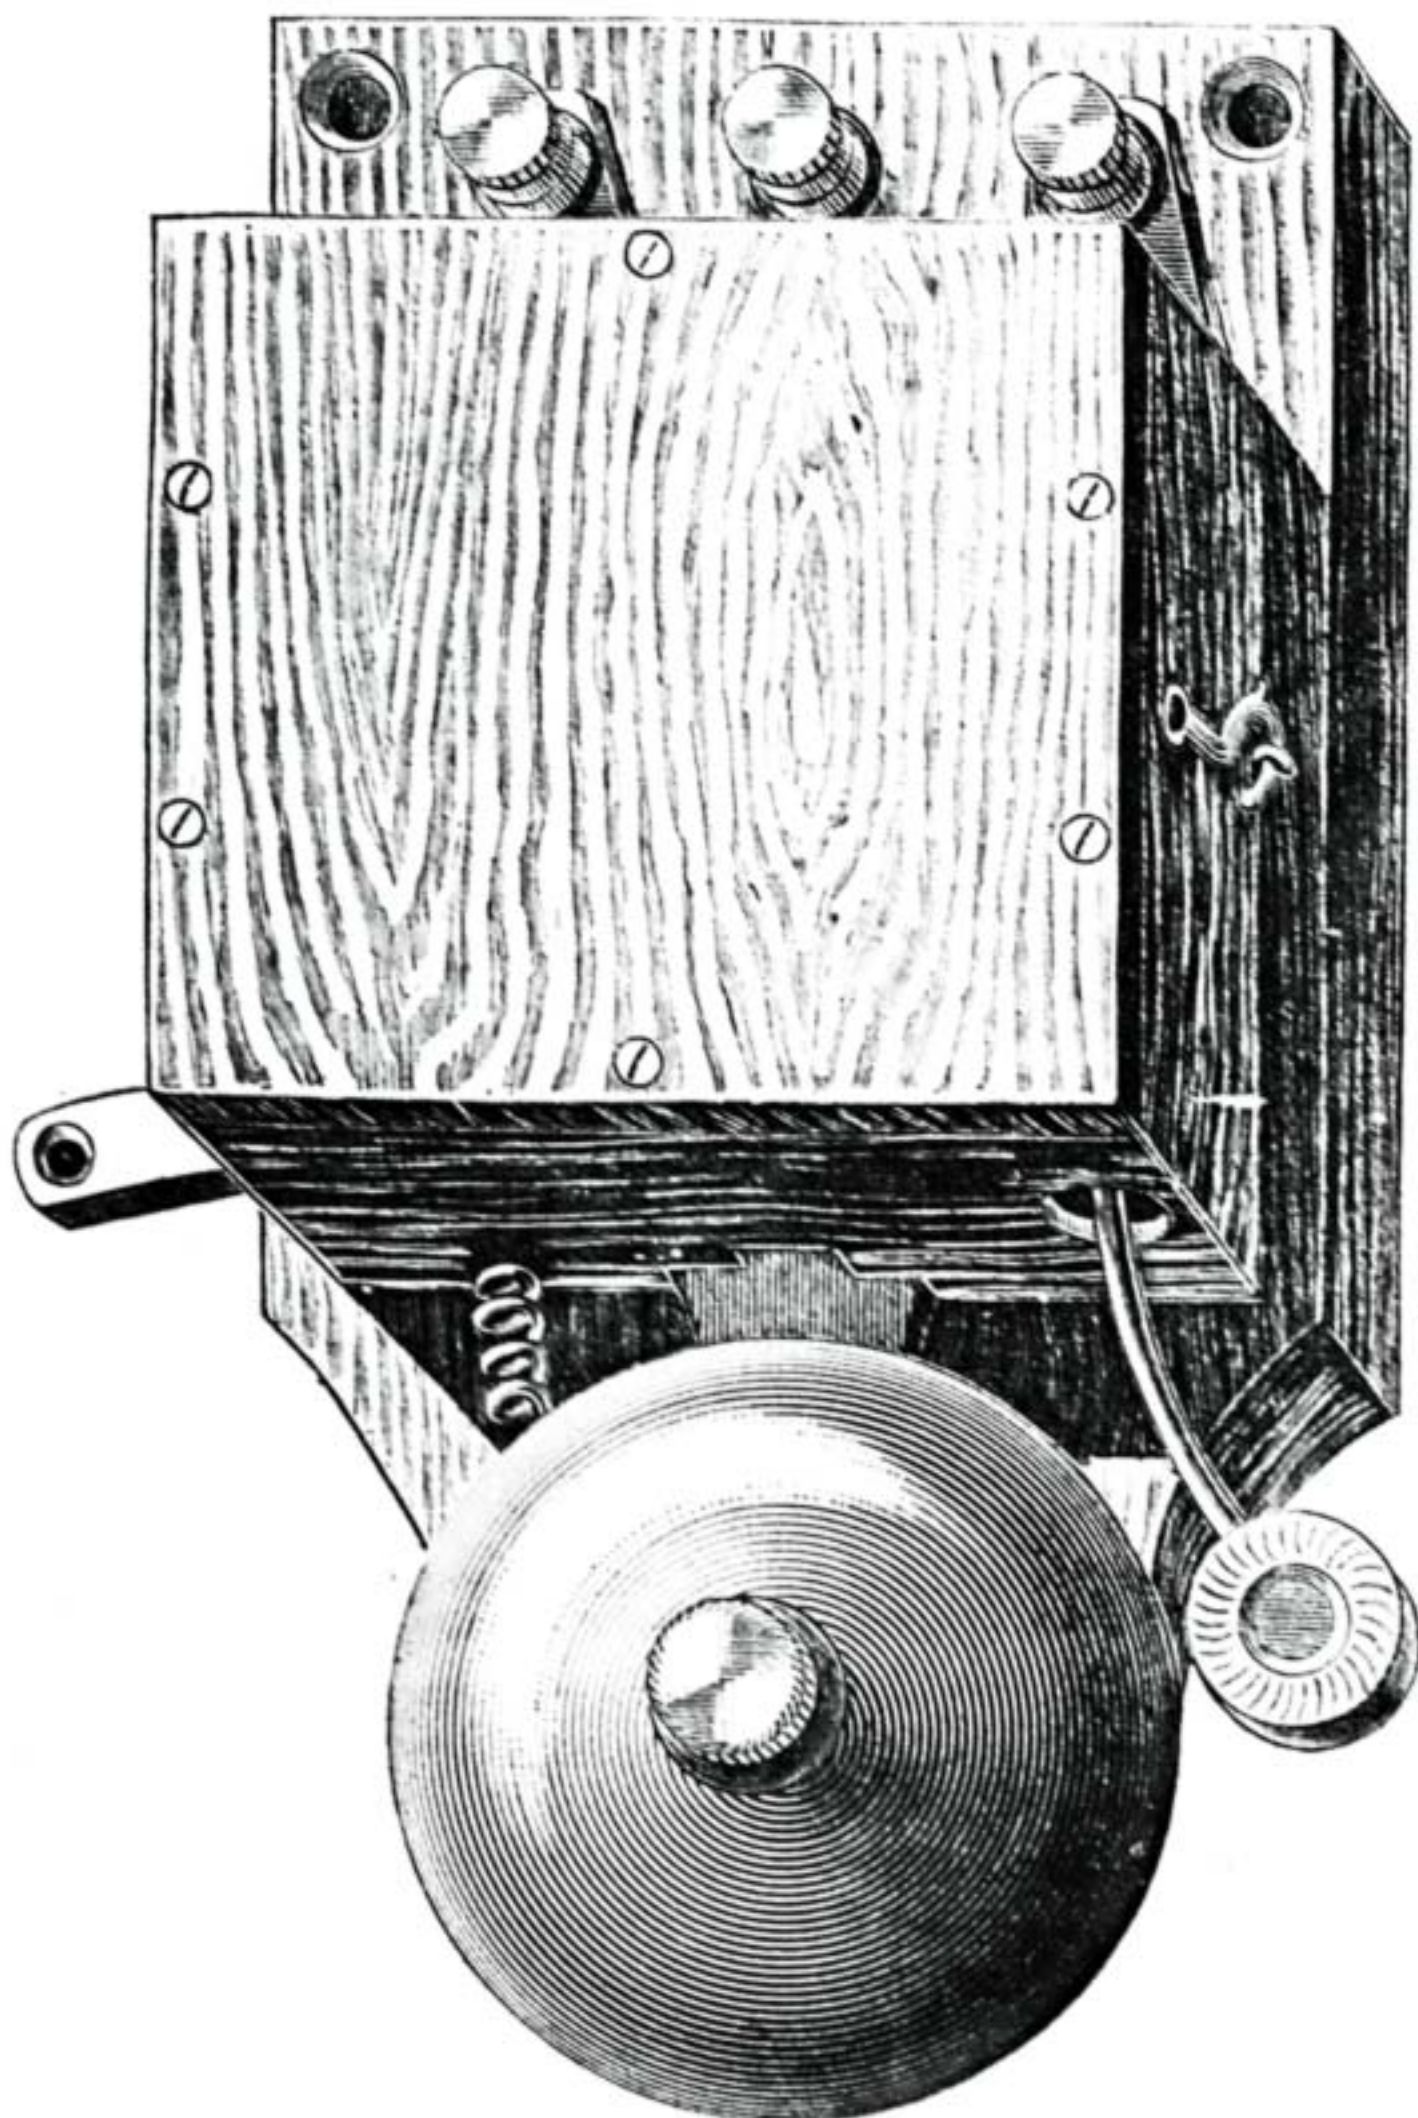
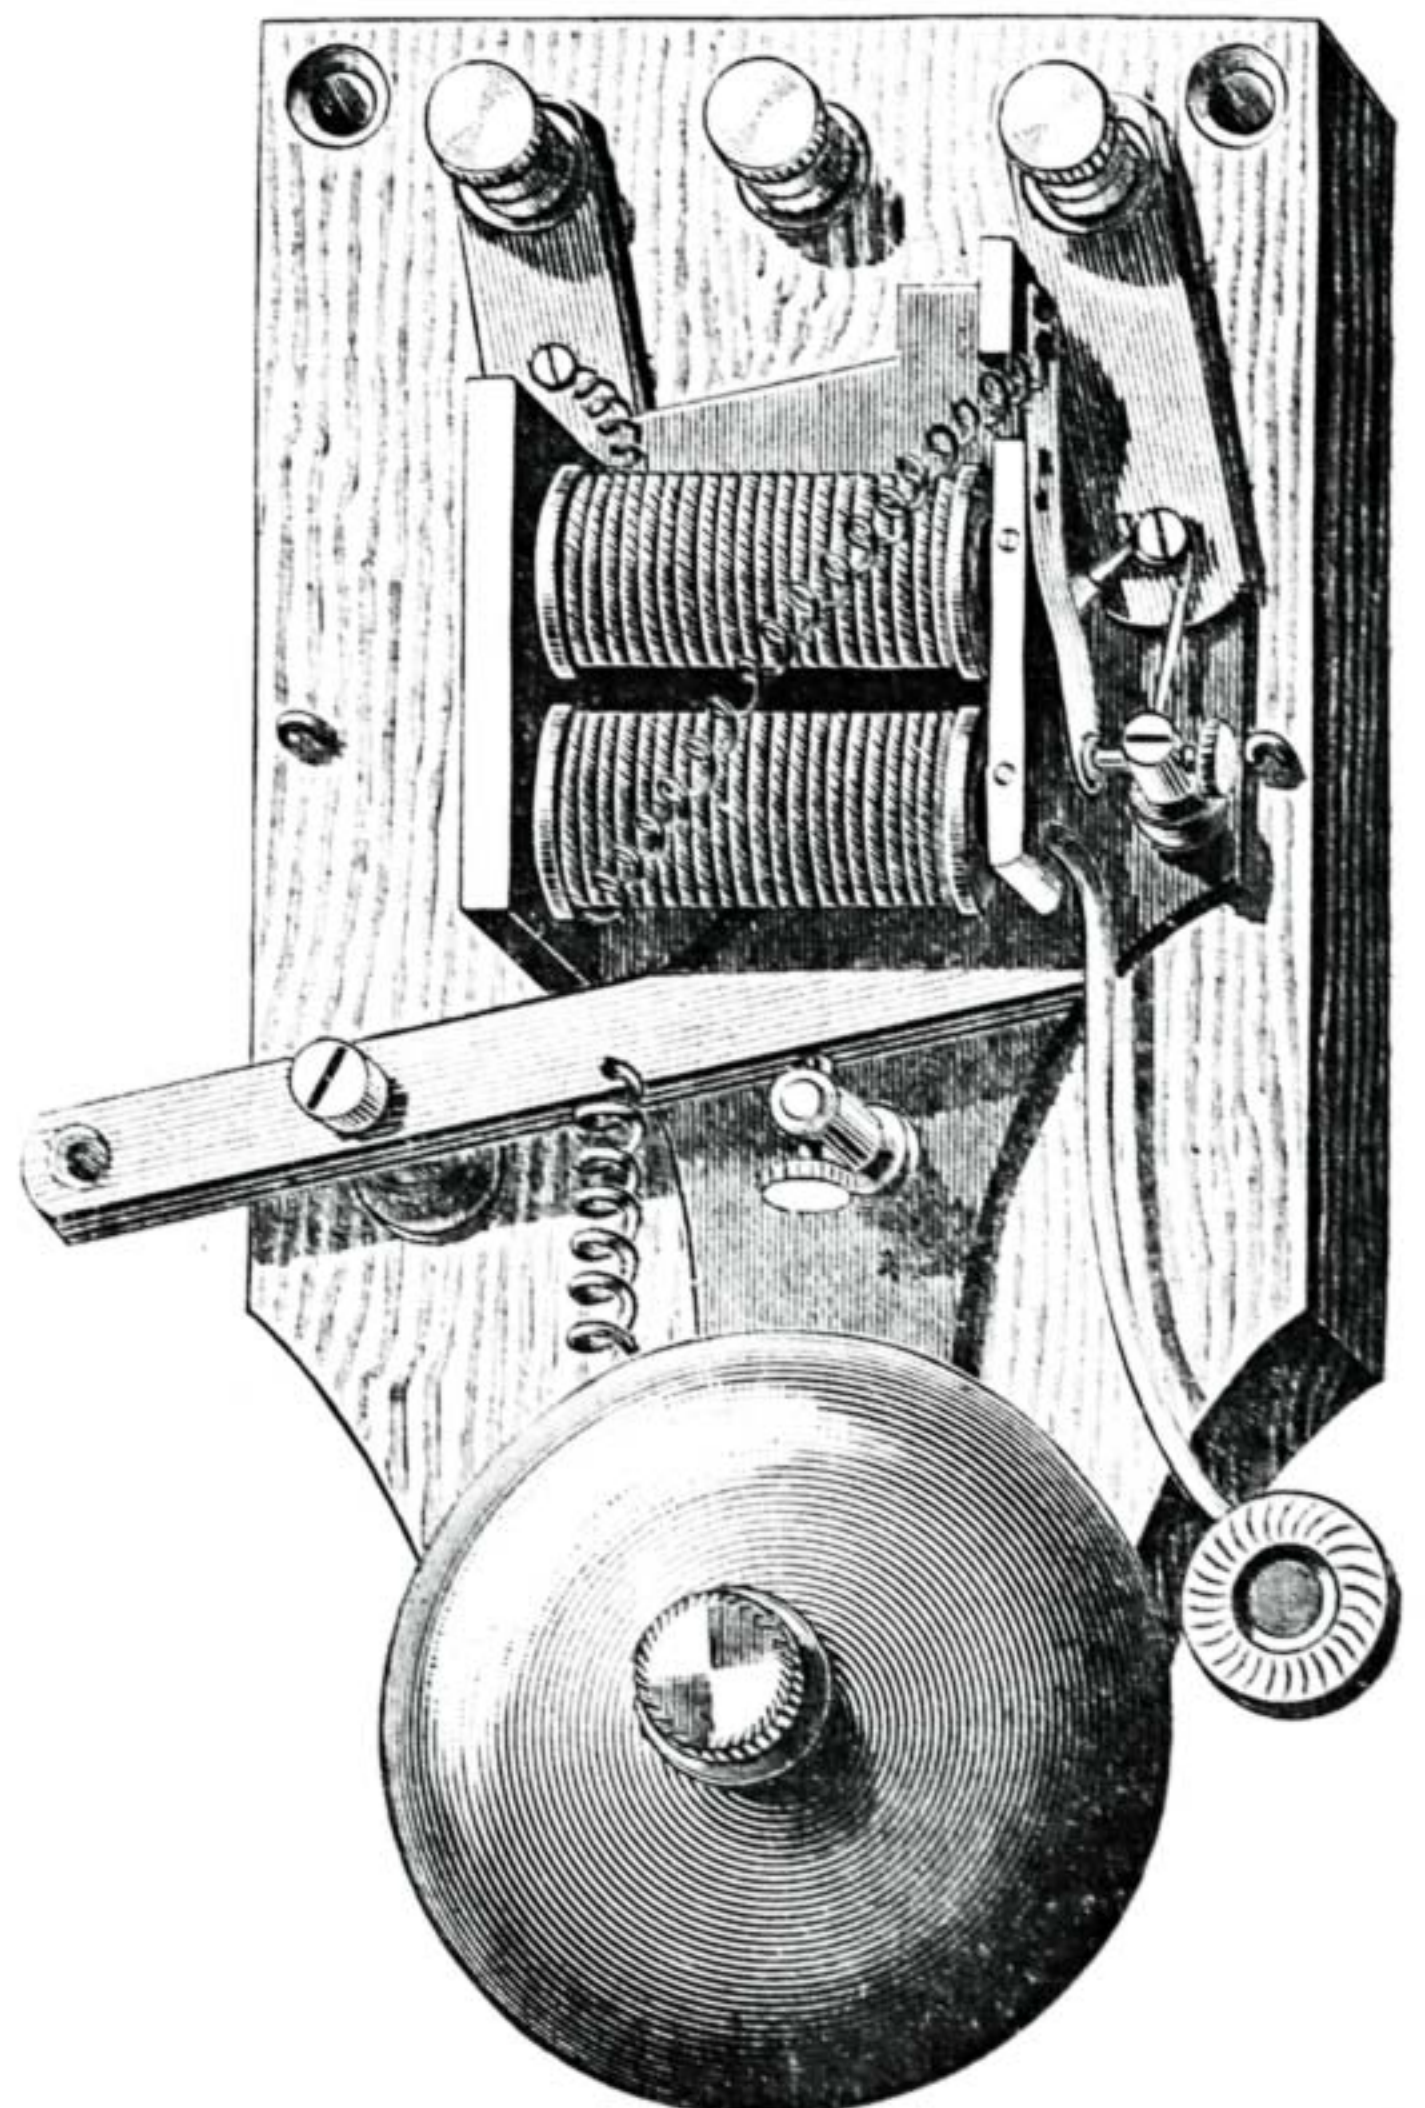

Fig. 29. —Dale's Electric Alarm Bell, Closed as when Fixed in Position for Use.
Fig. 30. —Dale's Electric Alarm Bell Uncovered, to show Automatic Relay and Working Parts of Bell.
*Dale's Electric Alarum Bell.*—Another form of electric alarum bell, fitted with automatic relay on the same base, is shown at Figs. 29 and 30, which illustrate a bell manufactured and sold by Messrs. Dale and Co., 26, Ludgate Hill, London, E.C. Fig. 30 shows the instrument with its cover off, exhibiting the interior fittings and working parts. It will be seen that the relay differs in form from that of Messrs. Mayfield, and is attached to the face and frame of the bell between the gong and the magnet coils. It is composed of the peculiar shaped trigger, shown at Fig. 21 (page 280), mounted on the pivot pillar, Fig. 11. This pillar is connected by a short piece of insulated wire, passing under the magnets, with a strip of brass attached to the right-hand binding screw of the instrument. A short contact post is inserted in the neck of the metal frame near the gong, and insulated from the frame by a wood collar. The tip of the screw from this post is made of platinum, and this comes into contact with another piece of platinum soldered to the trigger, when this is drawn to the post by the spiral spring. This post is connected with the middle binding screw by a piece of wire passing up the back of the base. The hook of the trigger engages with a catch attached to the armature, shown at Fig. 20, when the bell is set with the relay as an alarum. The action is similar to that of Mayfield's relay when the circuit is closed.
inside ends of the two coils, clean the wires on a bit of emery cloth, and twist them together as a rope is twisted. Serve the outside ends of the coils in a similar manner, and attach one of these to the left-hand terminal, or binding screw, of the bell (see Fig. 35), and fix the other to the metal base plate or to the lug carrying the armature spring; in both cases with metal screws—clean metal touching clean metal. This done, fasten the armature to its spring, and this to the lug on the base plate by small steel screws or screw studs. The hammer shaft should be previously inserted in the end of the armature, and if the relay shown at Fig. 30 is to be used, the catch shown at Fig. 20 (page 280) should also be fastened to the armature before this is mounted in position. The contact
*Testing the Bell.*—We may now set about testing our work. The three connecting terminals or binding screws, A, B, C (Fig. 35), having been screwed into the baseboard, the various wires are to be connected to them as shown in this figure, or in Fig. 30. It will be seen in both sketches that the central terminal (B, in Fig. 35) is connected with the contact post or piece of the relay; the right-hand terminal (C, in Fig. 35)